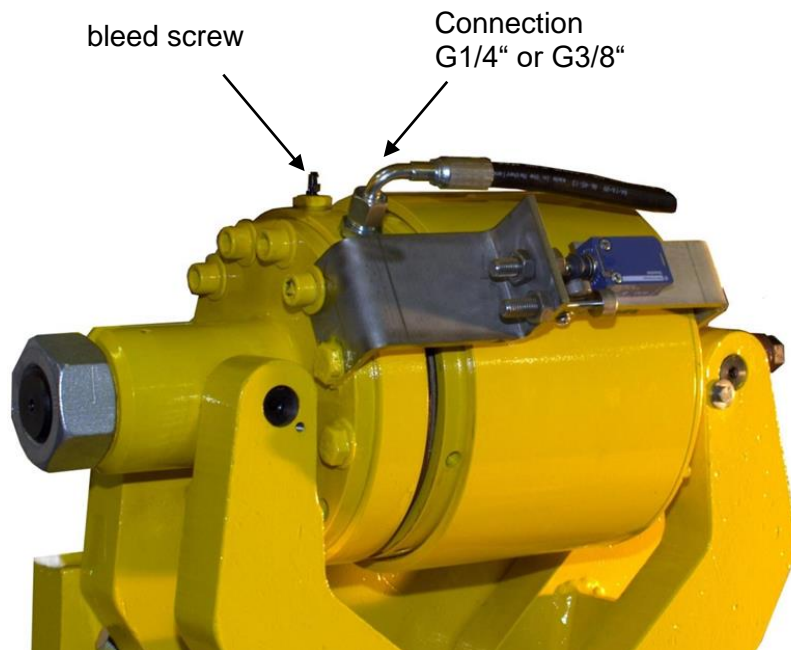

Fig. 2.12
4. For the electrical connection of the unit 7 (see Fig. 2.12), refer to the hydraulic power unit's manual HTP3